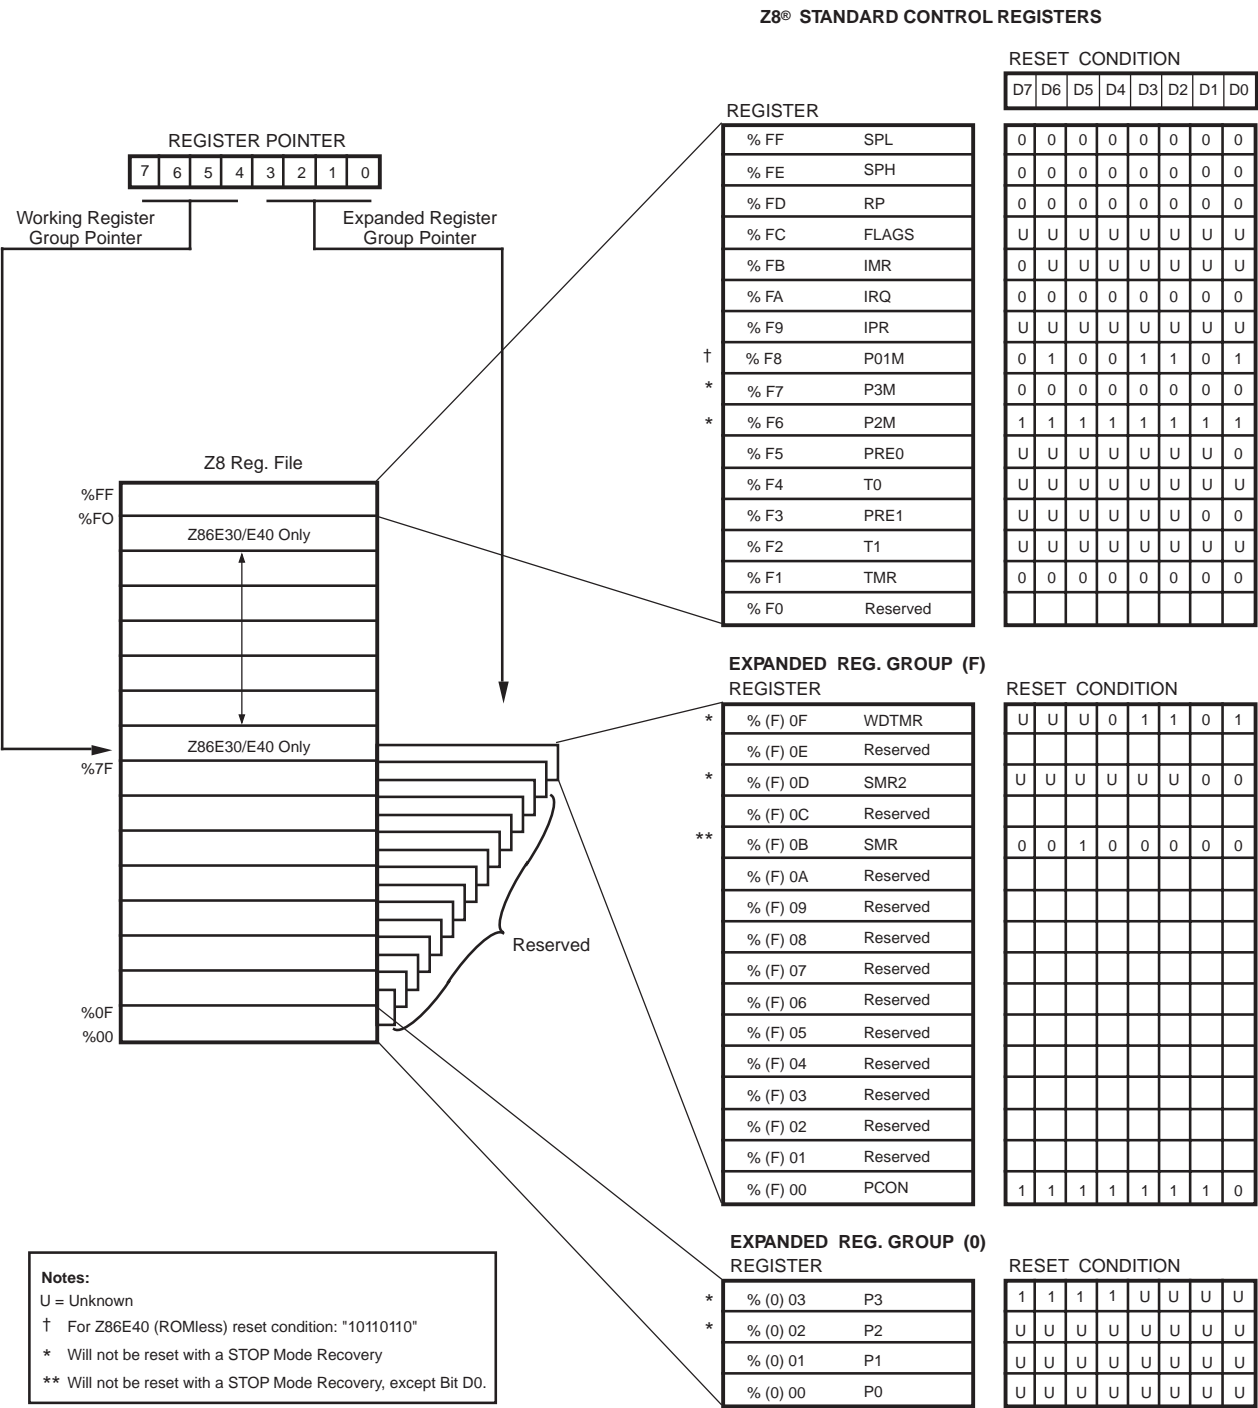

Figure 26. Expanded Register File Architecture
**Expanded Register File (ERF).** The register file has been expanded to allow for additional system control registers, mapping of additional peripheral devices and input/output ports into the register address area. The Z8 register address space R0 through R15 is implemented as 16 groups of 16 registers per group (Figure 26). These register groups are known as the Expanded Register File (ERF).